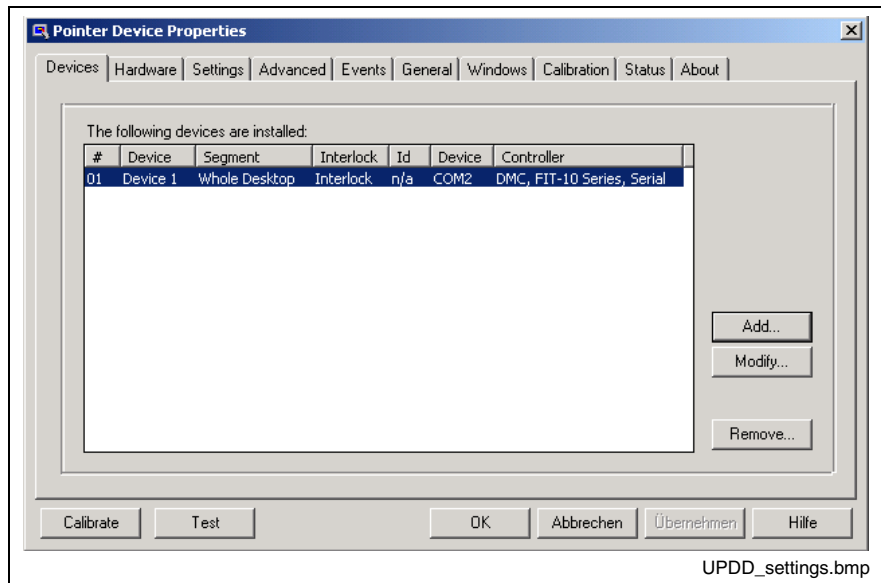

Fig. 9-2: Dialog window to set the touch screen
- Fig. 9-2: Dialog window to set the touch screen 9-2